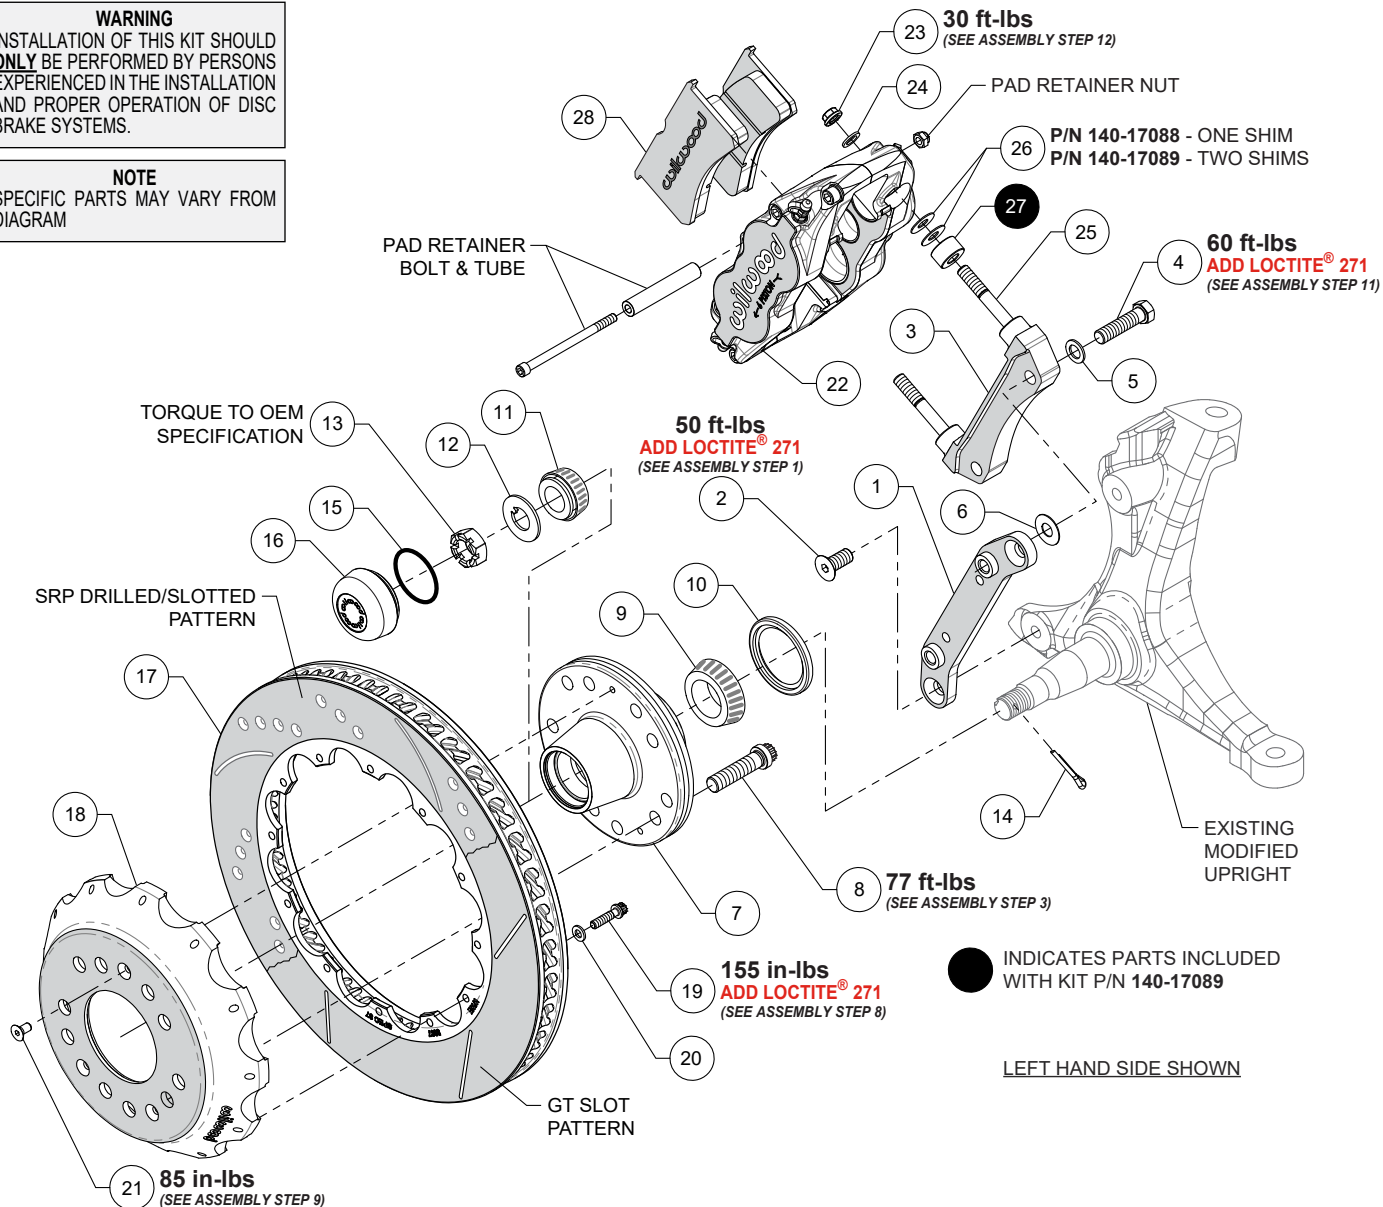
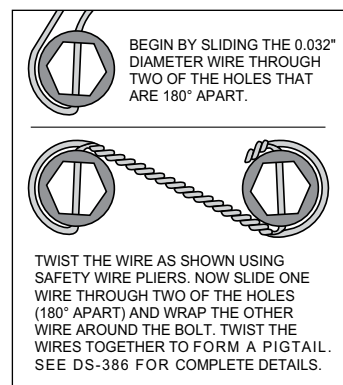

Figure 2. Typical Installation Configuration
Figure 5. Safety Wire Diagram
**NOTE:** Numbers in parenthesis refer to the parts list and Figure 2 on the preceding pages.
**STEP 1** Orient the caliper mounting flat bracket (1) as shown in Figure 2 and install using bolts (2), Photo 1. **NOTE:** Be sure the heads of the flat mount bracket clinch nuts (1) are facing outward toward the wheel. Temporarily tighten the mounting bolts. **NOTE:** The bracket must fit squarely against the mount bosses on the upright. Inspect for interference from casting irregularities, machining ridges, burrs, etc. After the bracket fitment has been checked, remove the bracket mounting bolts (2) one at a time, apply red *Loctite*® 271 to the threads and torque to value shown in Figure 2.
**STEP 2** The radial mount caliper bracket (3) should initially be installed with clean, dry threads on the mounting bolts. Orient the bracket, as shown in Figure 2 and Photo 2, and install using bolts (4) and washers (5). Initially place one .030" thick shim (6) on each bolt between the radial mount caliper bracket (3) and caliper mounting flat bracket (1), Figure 2. Temporarily tighten the mounting bolts. Later,
**STEP 3** Install wheel studs (8) into the hub (7), Photo 3. Torque to value shown in Figure 2. **NOTE:** There are two five lug patterns in the hub (5 x 4.75 and 5 x 5.00). Ensure the correct hub stud pattern is being used to fit the wheel application.
**STEP 4** Pack the large inner bearing cone (9) with high-temp disc brake bearing grease (available from your local auto parts store) and install into the backside of the hub (7), Figure 2.
**STEP 5** Install the grease seal (10) by pressing into the backside of the hub (7), flush with the end of the hub, Photo 4.
**STEP 6** Pack the small outer bearing cone (11) with high temperature disc brake bearing grease and install into the front side of the hub (7). Slide the hub assembly onto the spindle. Secure using spindle washer (12) and spindle nut (13). Adjust bearings per OEM specifications. Install cotter pin (14).
**STEP 7** Screw dust cap (16) into hub (7), Photo 5. Friction created by the o-ring (15) on the dust cap keeps it from unscrewing. **NOTE:** The O.D. of the existing OEM spindle washer may be larger than the I.D. of the dust cap not allowing it to seat against the hub face. Therefore, use the spindle washer (12) supplied with the kit instead of the OEM washer.
**STEP 8** Orient the rotor (17) and the hat (18) as shown in Figure 2 and Photo 6. Attach rotor to hat using bolts (19) and washers (20). Apply red *Loctite*® 271 to the bolt threads and torque to value shown in Figure 2 using a criss-cross pattern. For an added measure of security, the bolts may be safety wired using standard 0.032 inch diameter stainless steel safety wire as shown in Figure 5. Refer to Wilwood's data sheet DS-386 (available at [www.wilwood.com/Pdf/DataSheets/ds386.pdf](http://www.wilwood.com/Pdf/DataSheets/ds386.pdf)) for complete safety wire installation instructions.
**STEP 9** Slide the rotor/hat assembly (17 and 18) onto the hub (7) taking care to align the small countersunk holes in the hat with the small threaded holes in the hub, Photo 7. **NOTE:** The hat must fit flush against the hub face or excessive rotor run out may result. Install three flat head hex drive screws (21) through the small holes in the hat, Photo 8, and torque to value shown in Figure 2.
- For kit p/n 140-17088:** Initially place one .035" thick shim (26) on each stud between the caliper and the radial mount caliper bracket, as shown in Figure 2 and Photo 9.
- For kit p/n 140-17089:** Initially place spacer (27) and two .035" thick shims (26) on each stud between the caliper and the radial mount caliper bracket, as shown in Figure 2 and Photo 10.
**STEP 11** **NOTE:** This kit contains distinct right and left hand calipers that must be mounted in a specific direction, as described in below. Mount the caliper (22) onto the radial mount caliper bracket (3) using lock nuts (23) and washers (24), Figure 2. Ensure that the caliper is mounted so the largest pistons are at the rotor exit end of the caliper, in relation to the forward direction of rotor rotation. Temporarily tighten the lock nuts and view the rotor through the top opening of the caliper. The rotor should be centered in the caliper, Photo 11. If not, adjust by adding or
subtracting .030" shims (6) as necessary between the radial mount caliper bracket (3) and the caliper mounting flat bracket (1). Always use the same amount of shims on each of the two mounting bolts (4). Once the caliper alignment is correct, remove the radial mount caliper bracket bolts (4) one at a time, apply red *Loctite*® 271 to the threads, and torque to value shown in Figure 2.
**STEP 12** Remove the caliper pad retainer bolt, nut, and tube from the caliper, Figure 2 Insert the brake pads (28) into the caliper, with the friction material facing the rotor, as shown in Photo 12. Check that the top of the brake pad is flush with the outside diameter of the rotor, Photo 13. If not, adjust by adding or subtracting shims (26) between the caliper and the bracket. After the caliper pad height is set, torque the caliper lock nuts (23) to value shown in Figure 2. Secure the brake pads in place with the pad retainer tube, bolt, and locknut. The locknut should be snug without play in the bolt or tube. Be cautious not to over tighten.